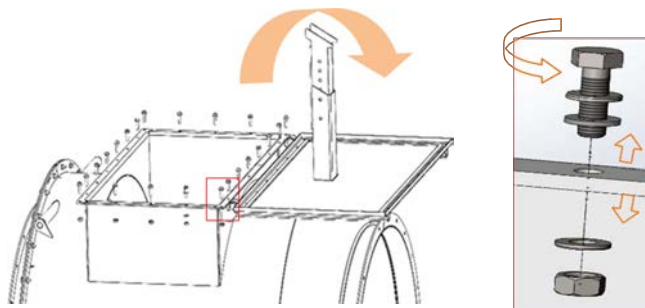

Figure 12. Opening inspection panel
Step 1: Open the inspection panel as shown in Figure 12.